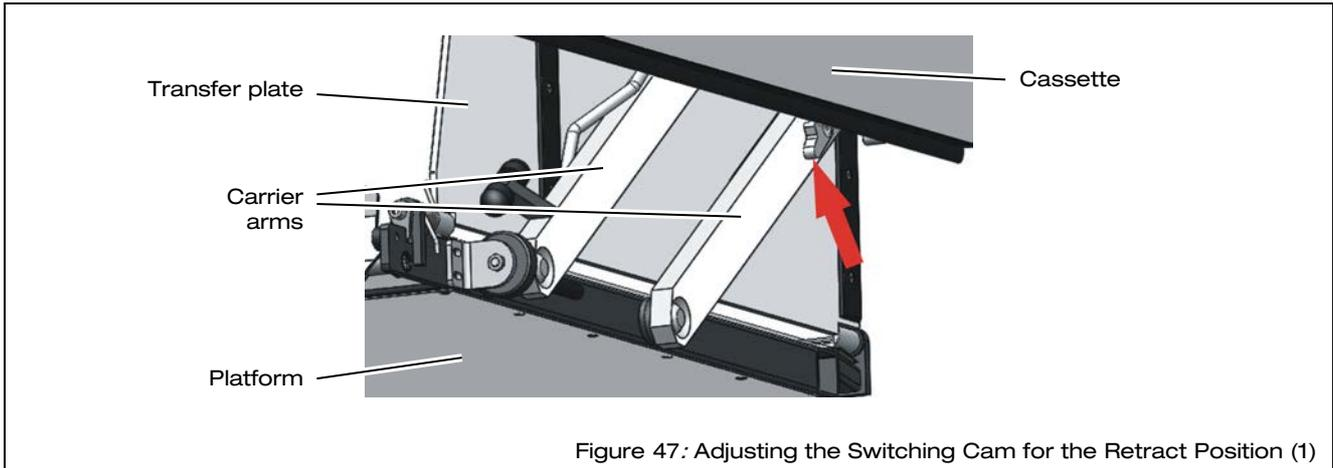

Figure 47: Adjusting the Switching Cam for the Retract Position (1)
- ⇒ Adjust the switching cam by hitting it lightly with a hammer from below (see Figure 47, page 70). In order to prevent damage to the switching cam, place a protective block (e.g. of wood or aluminium) between the hammer and switching cam.